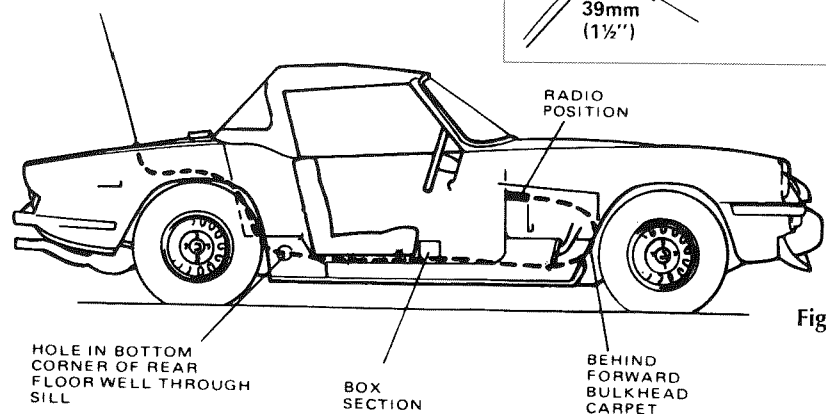

Figure. 2
6. Route the lead over the wheel arch and behind the rear RHS panel to emerge from an existing hole, as shown in Fig.2. Carefully pull away carpet and remove trim where necessary.